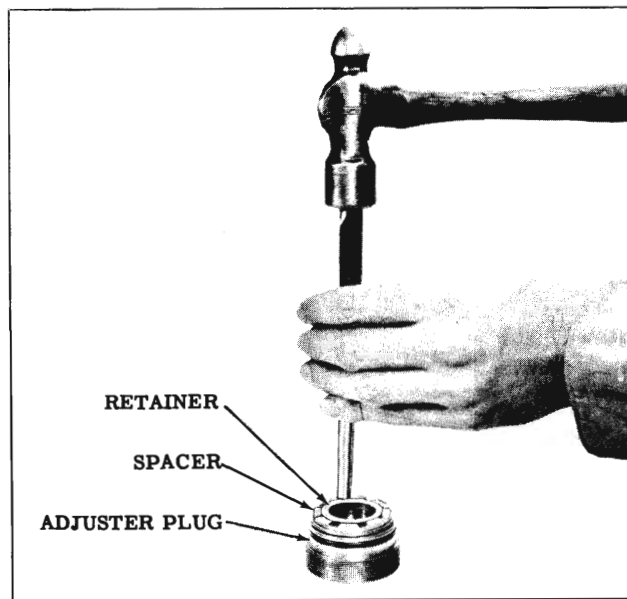

Fig. 4-51 Installing Bearing Retainer
5. Install a new bearing retainer on the adjuster plug by carefully tapping on the flat surface of the retainer. (Fig. 4-51)